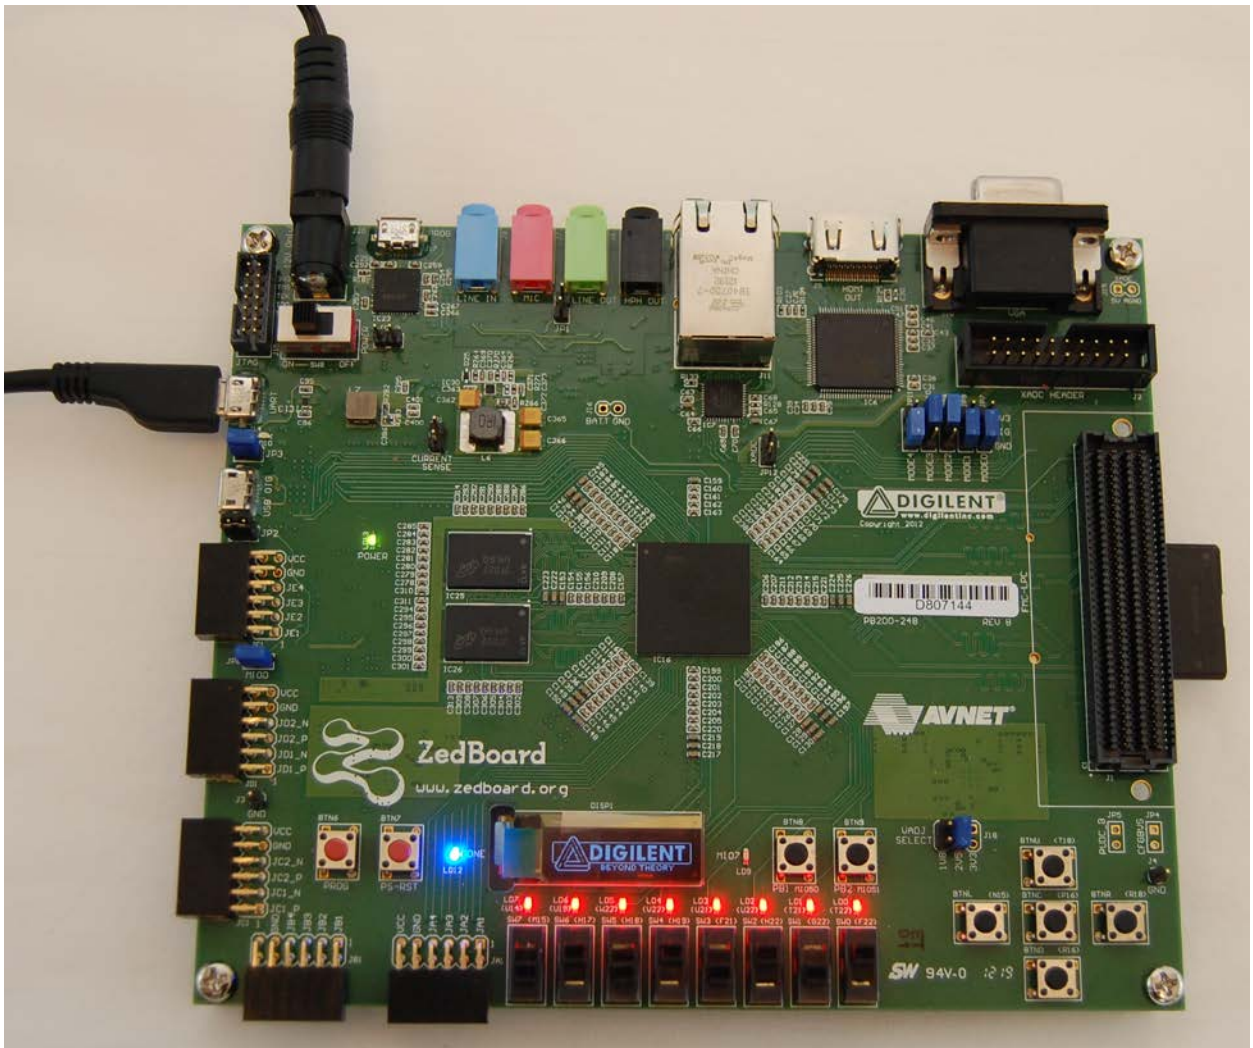

Figure 11 - ZedBoard Example LED Output
4. Wait approximately 15 seconds. The blue Done LED (LD12) should illuminate, and a default image will be displayed on the OLED (DISP1). The VGA test pattern will also show on the display as seen in Figure 11.